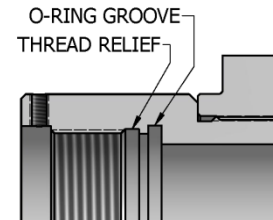

Fig. 2
**CAUTION5:** To ensure tool operates properly, install o-rings in o-ring grooves **NOT** thread reliefs (Fig. 2).